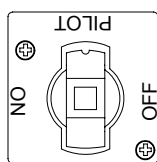
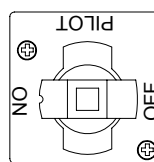

Figure 1
Figure 2
2. Rotate the gas valve knob to the PILOT position (see Figure 1).
4. With the pilot lit, push down and slowly turn the knob to the ON position (see Figure 2 on Page 3-1).
For short-term shut down during the workday, rotate the gas valve knob clockwise to the **PILOT** position (see Figure 1 on Page 3-1) and put the frypot covers in place (if the fryer is so equipped).
When shutting the fryers down, rotate the gas valve knob to the **PILOT** position (see Figure 1 on Page 3-1). Depress the gas valve knob and rotate slightly clockwise. Release and continue rotating clockwise to the **OFF** position (see Figure 2 on Page 3-1). Put the frypot covers in place (if the fryer is so equipped).